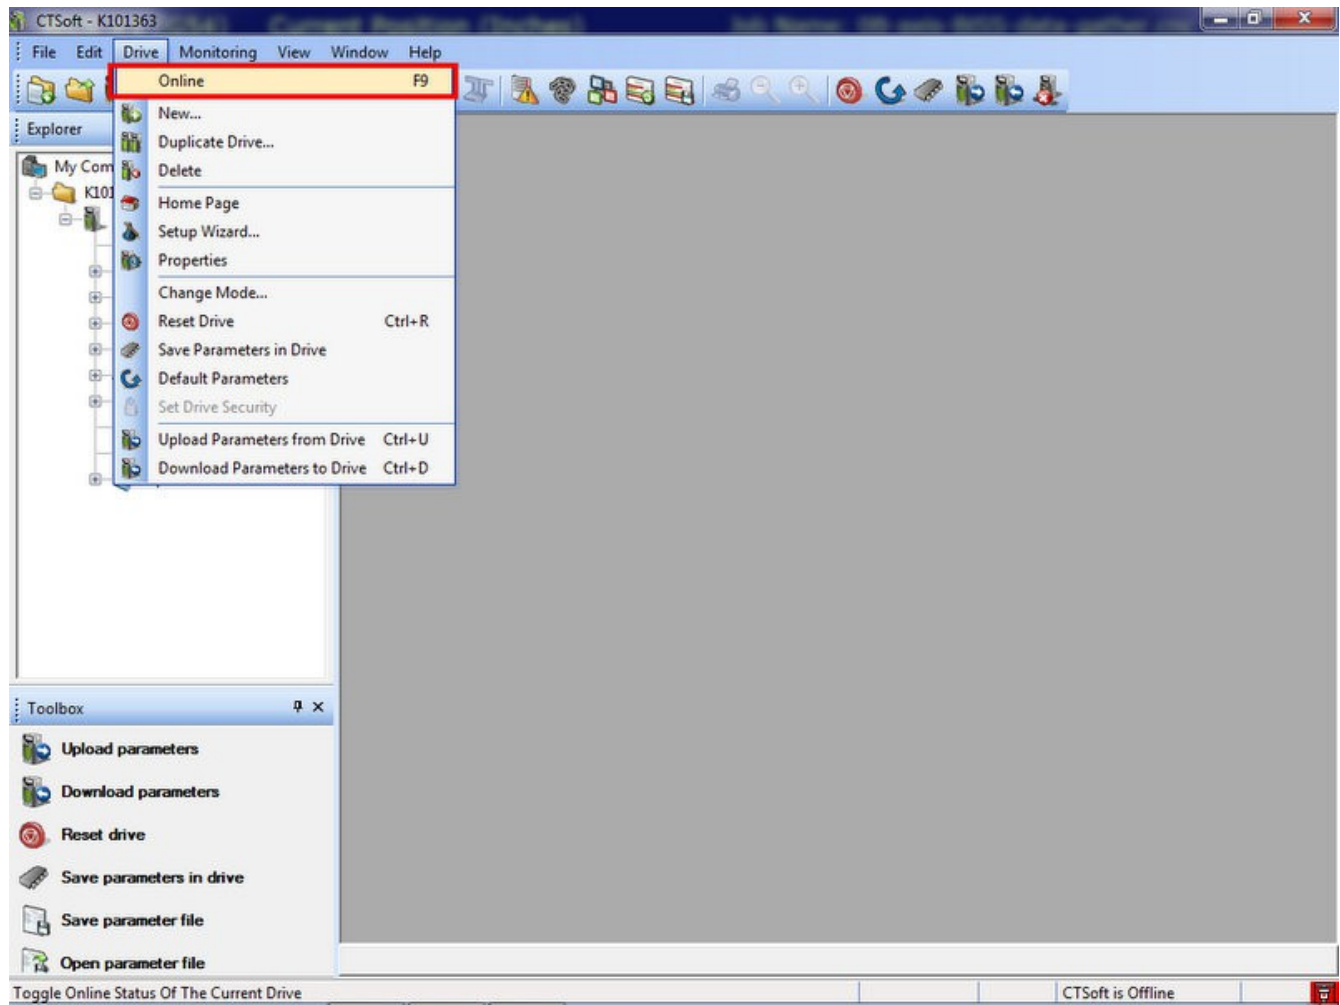

Figure 10
8. Click the **Drive** menu and click **Online** as shown in Figure 10.